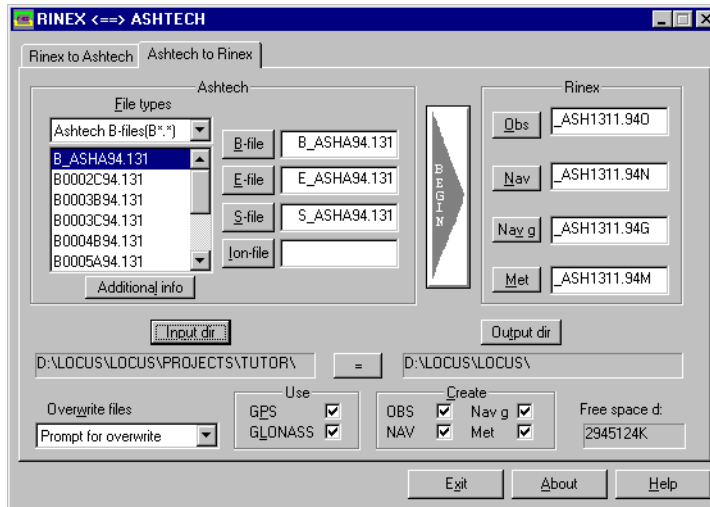

Figure 7.7: Ashtech to RINEX Tab
1. Click the **Ashtech to RINEX** tab to switch to the **Ashtech to RINEX** tab (Figure 7.7).